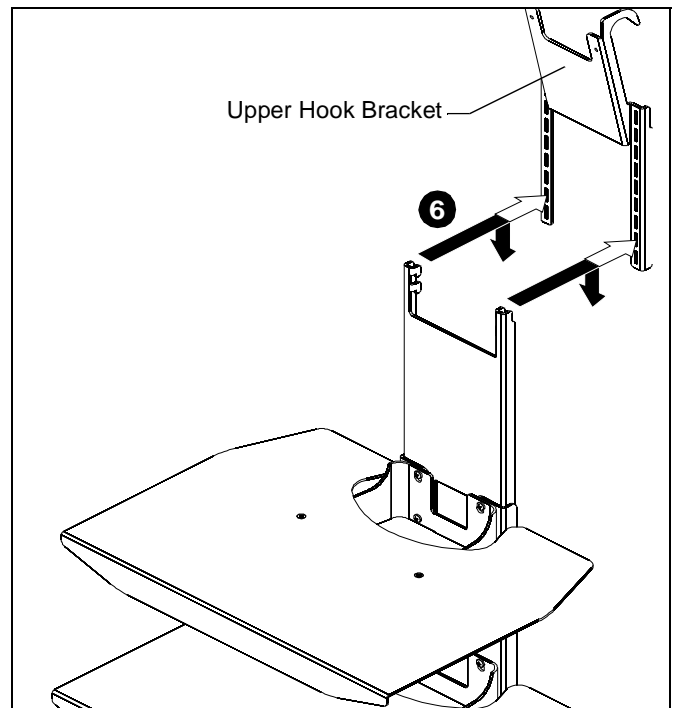

Figure 5
6. Attach shelf accessory or speaker bracket with FCD100 to upper hook bracket. (See Figure 5)